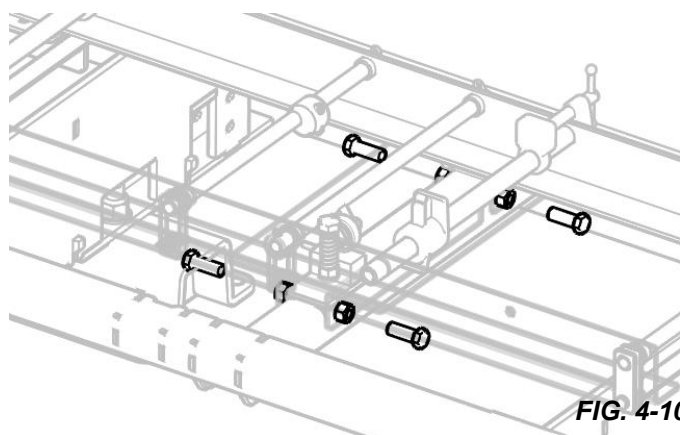

FIG. 4-10
3. Secure SLR with the bolts as shown in FIG 4-10.